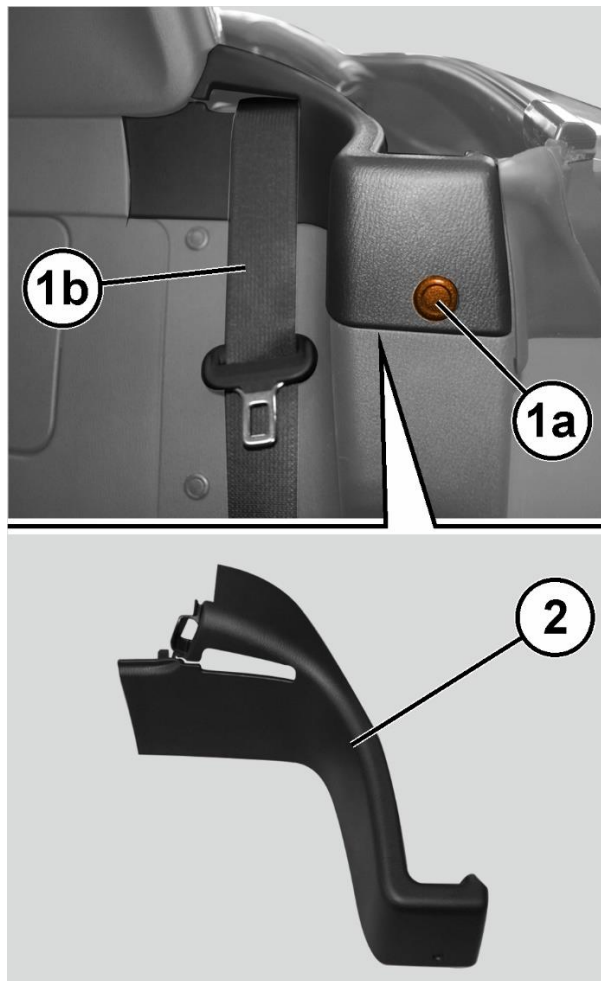

Figure 13 – Seat Belt Trim
24. Remove the seat belt trim fastener (1a) (Figure 13).
25. Slide the seat belt (1b) through the slot in the seat belt trim (2) (Figure 13).
26. Remove the seat belt trim (2) from both sides of the vehicle (Figure 13).